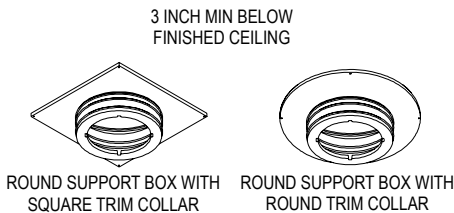
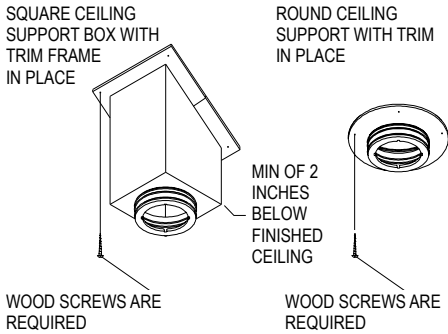

Figure 5
Figure 6
Support, refer to the Square ceiling installation below. The Round Ceiling Support Box has the option of a square or round Trim Collar available (**Fig 5**). The bottom of the Round Support Box must extend at least 3 inches below the finished ceiling. Level the Support Box and secure it to the framing using at least three 8-penny nails per side (min. of 12 total). Alternatively, you may use 1-1/2" #8 wood screws (min. of 12 total), instead of nails.
Next, secure the Trim Collar (round or square) to the framing members using the (4) 1" long, round-head wood screws provided (**Fig 6**). For installation into a cathedral ceiling, you must use the Square Ceiling Support Box or Reduced Clearance Support Box (or the CAS Ceiling Support if installing the CAS system) and the two-piece Trim. The bottom of the square portion of the Support Box must be a minimum of 2-inches lower (round portion is an additional 3 inches lower) than the finished ceiling at the lowest side of the penetration (**Fig 5 & 6**). Level the Support Box and secure it to the framing using at least three (3) 8-penny nails per side (minimum of 12 nails total), or a minimum of (3) #8, 1-1/2" wood screws. Adjust the overlapping "U-shaped" Trim pieces so they cover the Support Box, and secure them to the framing members using the (6) 1-1/4" long, round head wood screws provided (**see Fig 6**).